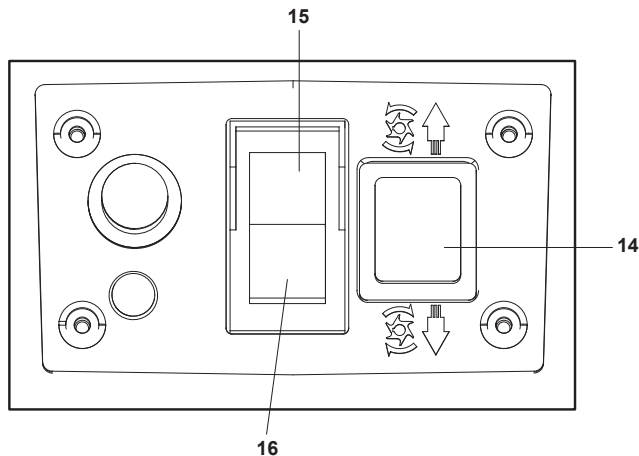

Fig. 8
- Press the ON switch "I" (15) for about 1 second to switch the machine on for forward operation when setting the forward/reverse switch (14) to forward mode "4L" (Fig. 8).
- Hold down the ON switch "I" (15) to switch the machine on for reverse operation when setting the forward/reverse switch (14) to reverse mode "4R".
2. Switch OFF: Press the OFF switch "O" (16) to switch the machine off.